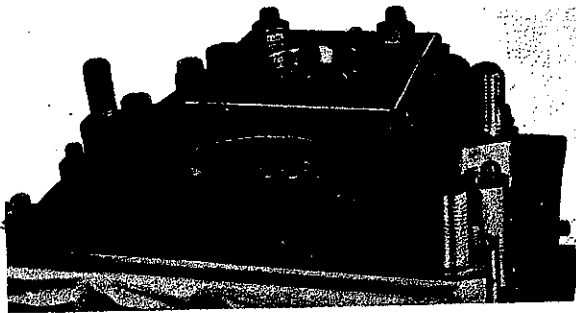

Fig. 44
4. Screw-on adjusting plate .11. (Fig. 44). Check bearing of countershaft. Countershaft should rotate free of play but without binding. A slight resistance when turning shaft should be felt. Compensating washers 2.0, 2.05, 2.1, 2.15, 2.2, 2.25, 2.3, 2.35, 2.4, 2.45, 2.5, 2.55, 2.6, 2.65, 2.7, 2.75, 2.8 and 2.9 mm thick are available